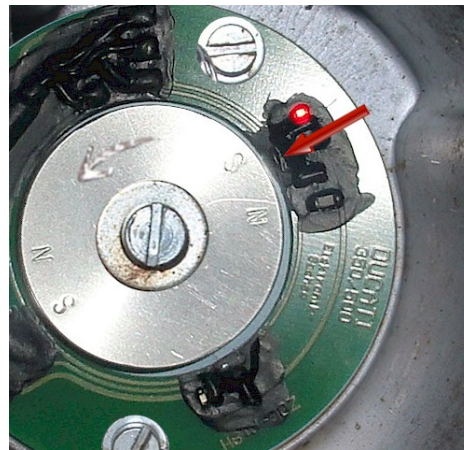

**Figure 3** Ensure correct alignment of magnet disk and sensor.
- Rotate the disk in rotation direction until the S-marked Magnet is close to the sensor (arrow, picture (1)).
- Take care that the magnets in the disk are approximately in the same height as the sensor, see figure 3.